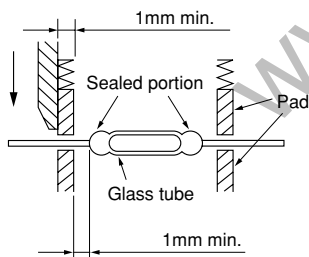

Fig. 2 Example of cutting of terminal
- 3) When bending or cutting the terminals of the reed switch, please bend or cut the terminals after having fixed them using pads so as to prevent force from being exerted on the sealed portion, as shown in Fig. 2.
- 4) To protect a sealed portion of the glass tube, the glass tube should be spaced more than 2mm apart from an area where the terminals are bent or cut (Fig. 2).